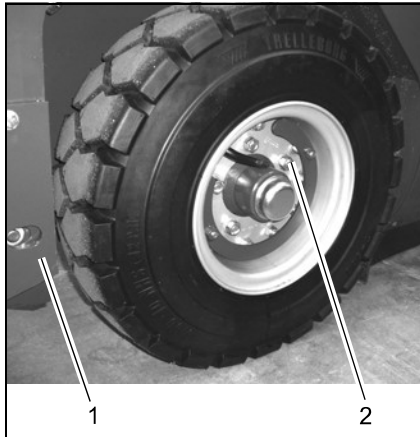

Fig.22
3. Bring the jack into position under the frame (Fig. 22/1).
4. Slightly loosen the five inner flange nuts (Fig. 22/2) in order to remove the tire from the vehicle.